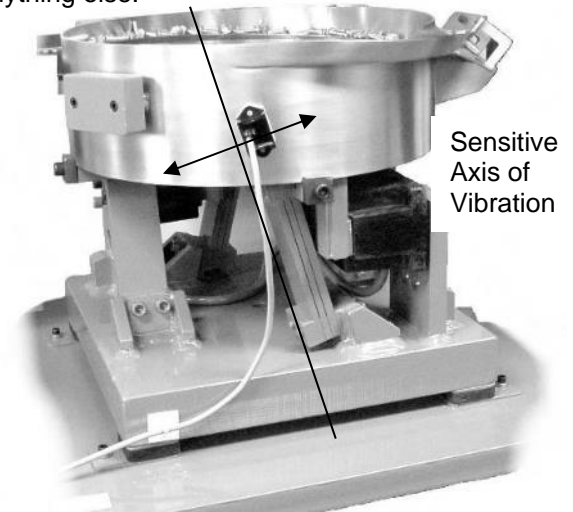

Fig. 2 The arrow shows the direction of vibration which is at a right angle to the spring pack.
A. **ORIENT THE SENSOR** so that its sensitive axis is in the same direction as the vibration of the feeder. The arrow in figure 1 shows the sensor's sensitive axis. Align the sensitive axis of the sensor in the same direction as the vibration (see figure 2). The sensor must be oriented correctly for proper operation.
Use a cable tie and an adhesive-backed mount to attach the sensor cable to the side of the drive base. See Figure 2. Clean the mounting area before applying the adhesive-backed mount.